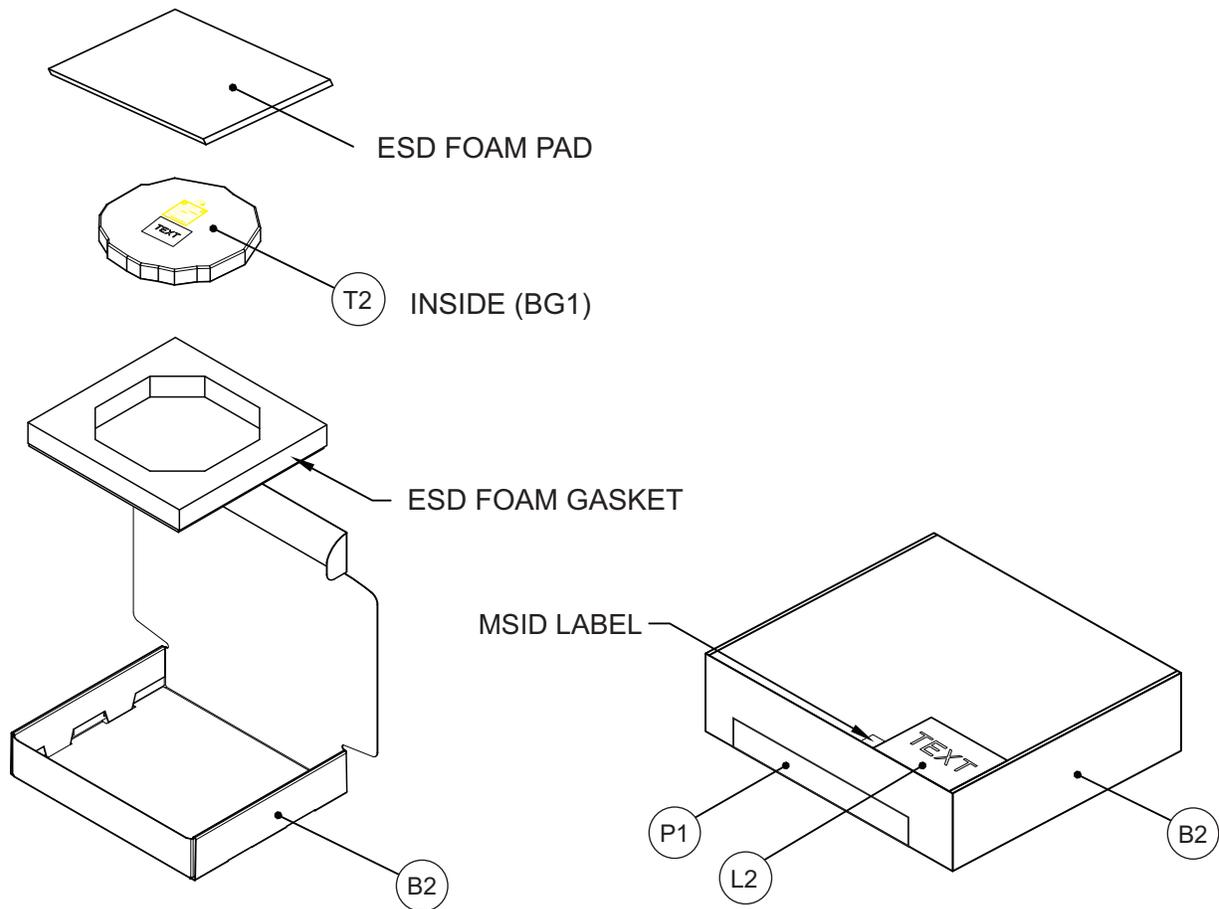

Figure 10-4: Manufacturing Box Preparation
2. Manufacturing box preparation (Figure 10-4):